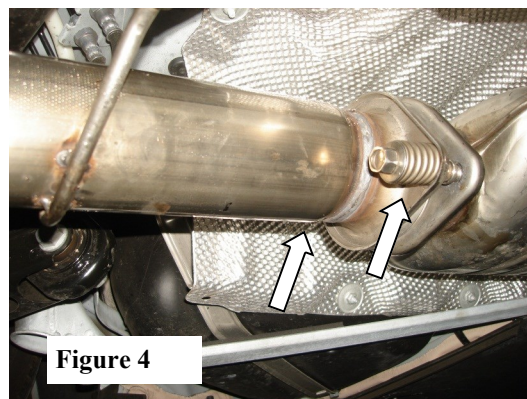

Figure 4
1. Install factory sealing gasket to new flange. Place Front Pipe Assembly into position. Using factory spring and supplied hardware. (See Fig. 4) Do not tighten hardware.